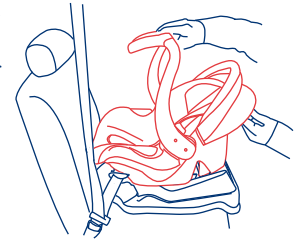

Fig. 46-2
- 15.2.9) If you are using the Base, check that nothing is on top of the base, or anything that will interfere with the proper latching of the Safety Seat to the Base. Place the Safety Seat onto the Base and push down until the Safety Seat latches securely to the Base and you hear a click. Pull upward on the Safety Seat to check that the Safety Seat is securely latched onto the base. Please see figure 46-2.